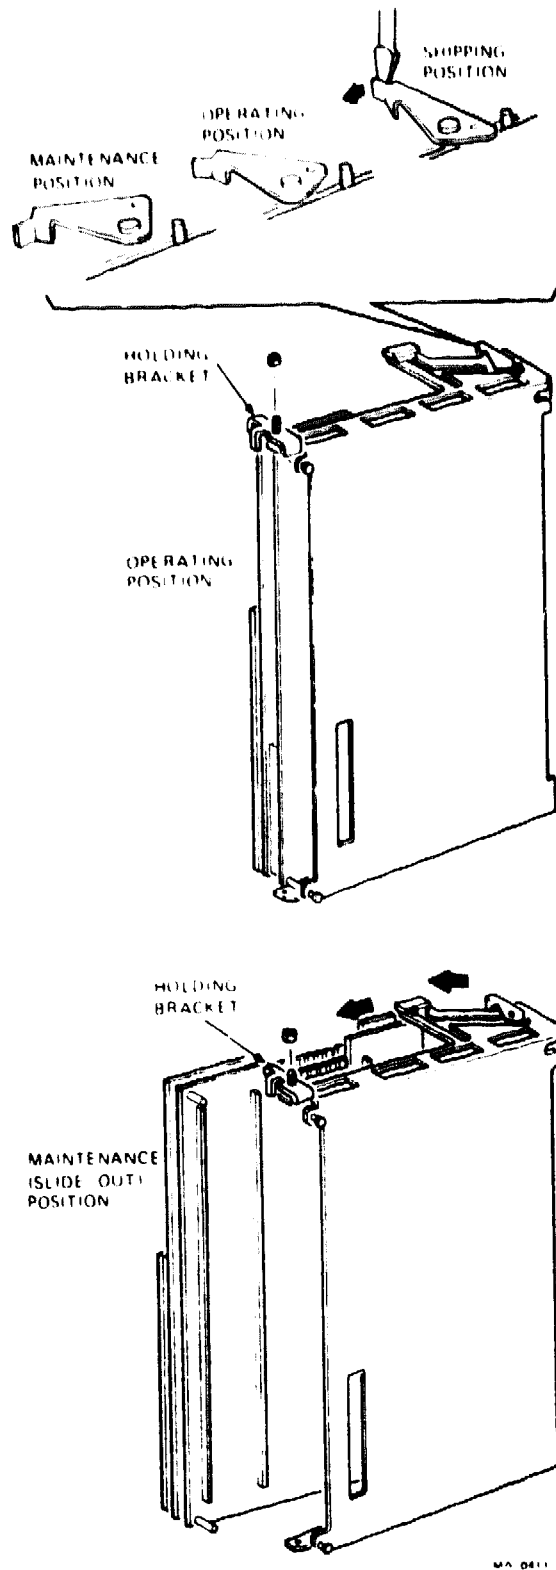
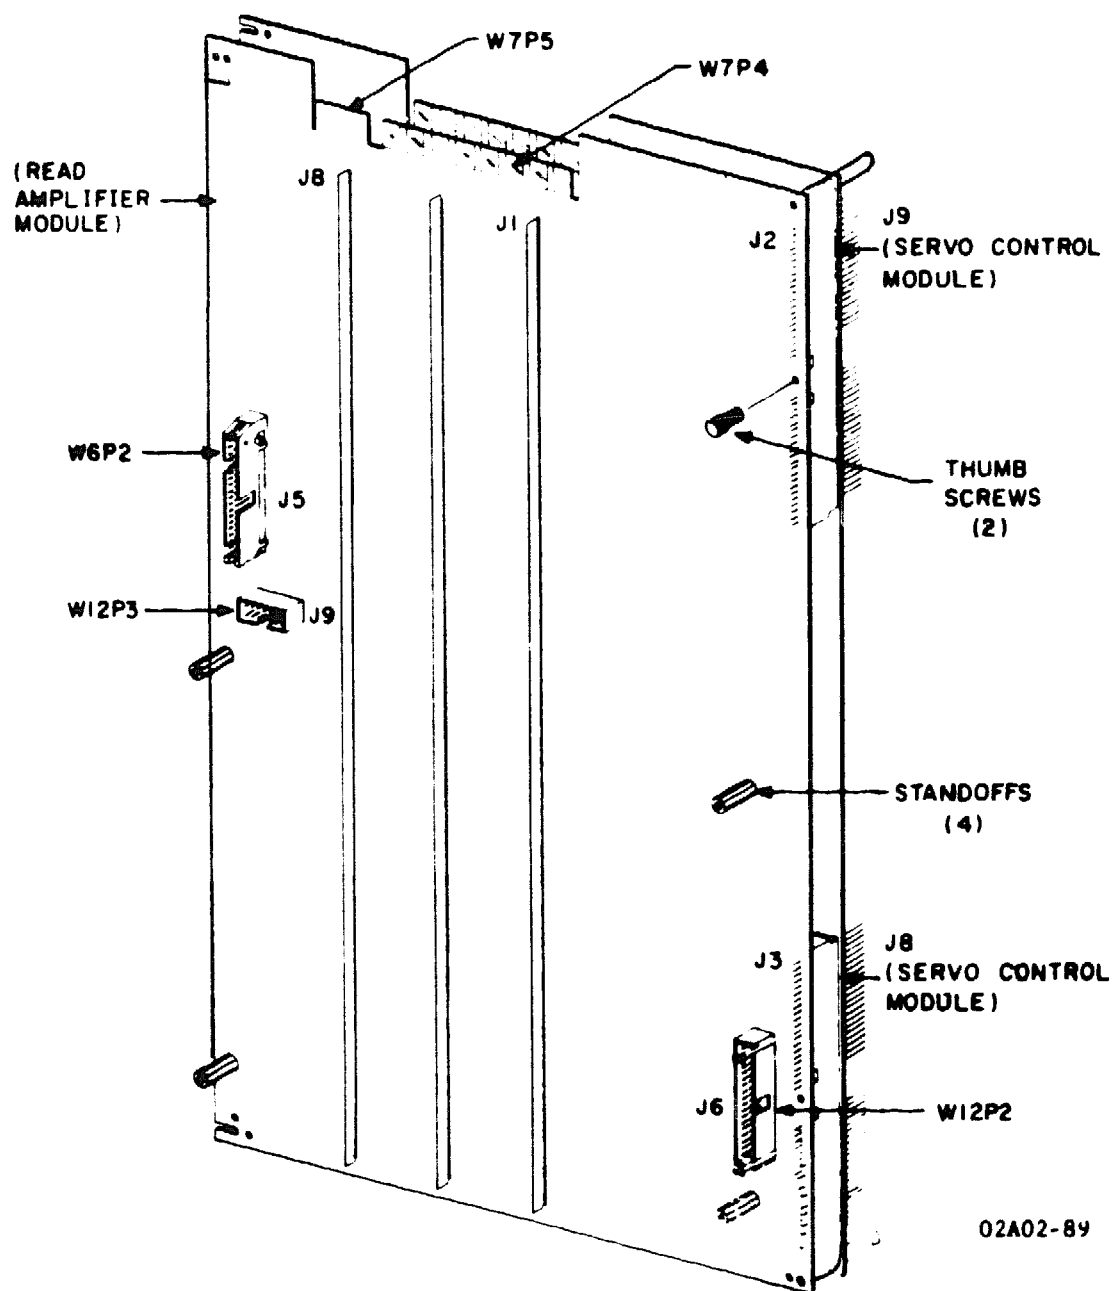
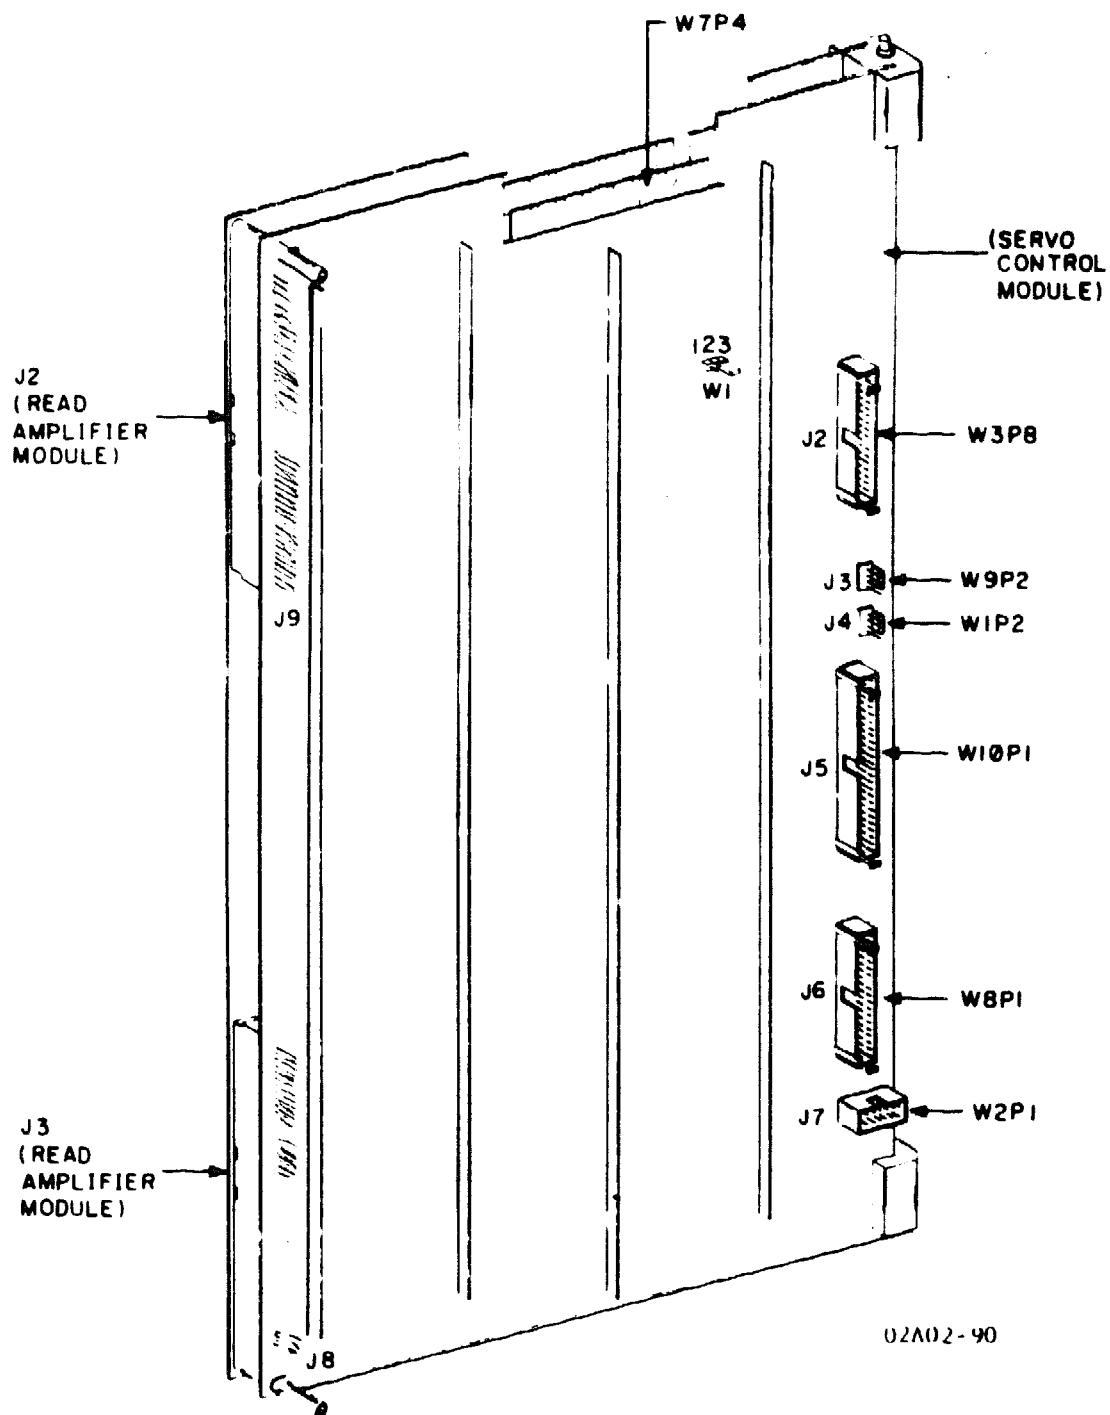

Figure 5-25. WRITE DRIVER/READ AMP/SERVO CONTROL LOGIC CAGE
Figure 5-28. READ AMPLIFIER MODULE CONNECTORS
Figure 5-29. SERVO/CONTROL MODULE CONNECTORS
To service any of these modules, you must separate them from the logic cage and move them to the maintenance position (Figures 5-25 and 5-26). Refer to Chapter 5 of the TU81/TA81 Subsystem User Guide (EK-TUA81-UG) for instructions on removing the shipping and safety brackets.
3. Swing the modules slightly to the left. Remove both connectors (W7P5, W7P4) at the top of the Read Amplifier and Servo Control Modules (Figure 5-28).
4. Release the logic cage latch at the top-rear of the logic cage and temporarily slide the three-module assembly into the maintenance position (Figures 5-25 and 5-26).
5. From the Servo Control Module, remove connectors W3P8, W10P1, W8P1, and W2P1 (Figure 5-29). Remove connectors W6P2 (to read/write head), W12P2, and W12P3 from the Read Amplifier Module (Figure 5-28).
12. If you need to replace the Servo Control or Read Amplifier module, loosen the thumbscrews on the Read Amplifier module at J2/J9 and J3/J8 (Figure 5-28). Then slide the module to be replaced out of the brackets and separate the modules.
1. Join the Read Amplifier and Servo Control Modules and partially secure by installing and tightening two thumbscrews as shown in Figures 5-28 and 5-29.
5. Install connectors W6P2 (from read/write head), W12P2, and W12P3 to the Read Amplifier Module (Figure 5-28). At the Servo Control Module, install connectors W3P8, W10P1, W8P1, and W2P1 (Figure 5-29). Install the read/write head cables.
6. Install connectors W7P5 and W7P4 to the top of the Read Amplifier and Servo Control Modules (Figure 5-28). Slide the module assembly into the operating position and secure with the logic cage latch (Figures 5-25 and 5-26).
2. Move jumper W1 at location D23 on the servo control module to the 1-2 position (Figure 5-29).